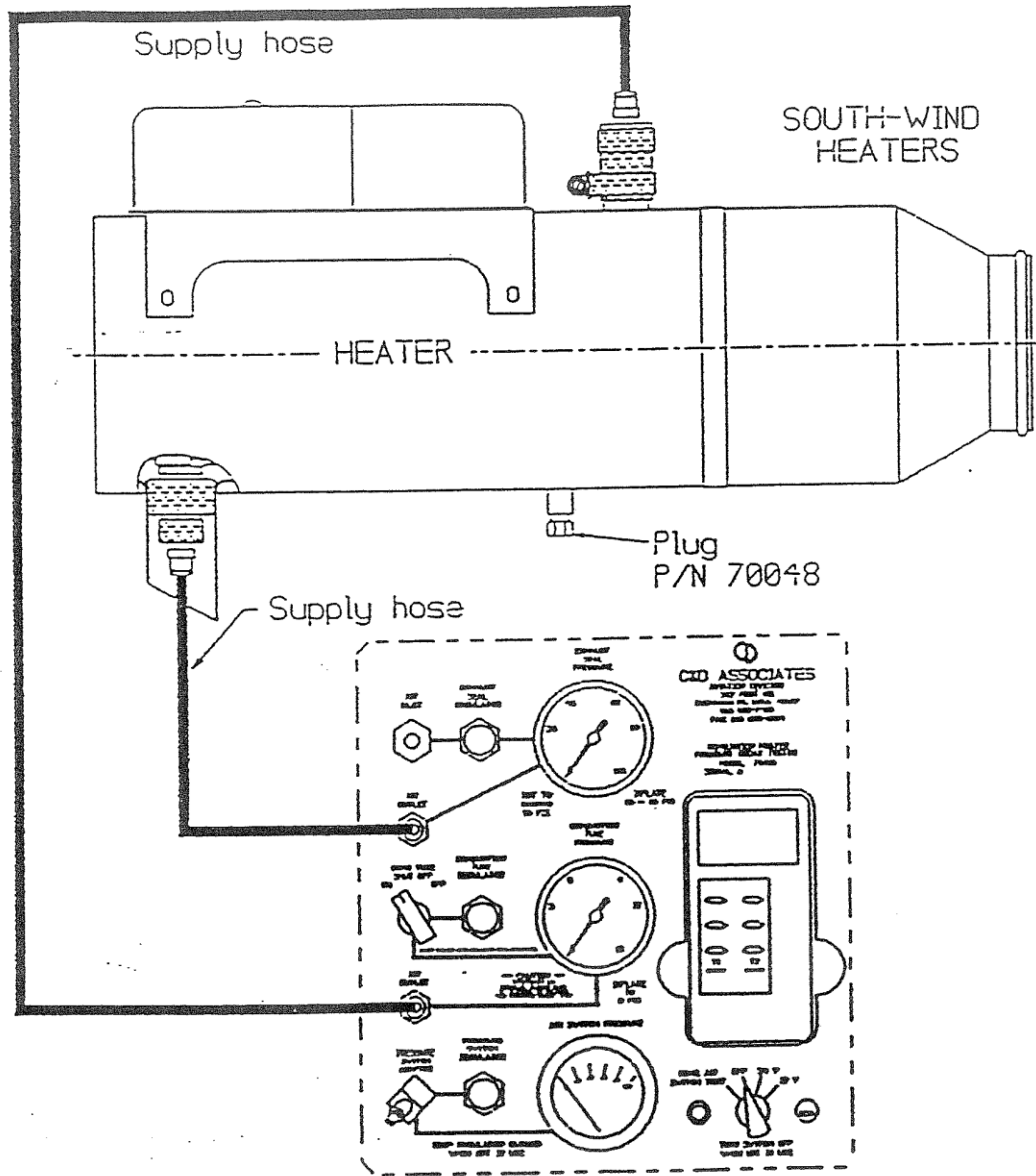

Fig. 3
- If the combustion air pressure switch is mounted directly on the heater (Fig. 3), loosen the combustion air sensing lines from the combustion air pressure switch. Identify and then loosen two (2) wires from the combustion air pressure switch. Remove the combustion air pressure switch from heater by unscrewing the switch from the fitting (CCW). Test the pressure switch as outlined on page 6. S15 and S25 series heaters have a combustion air relief valve that must be removed for testing the combustion tube.